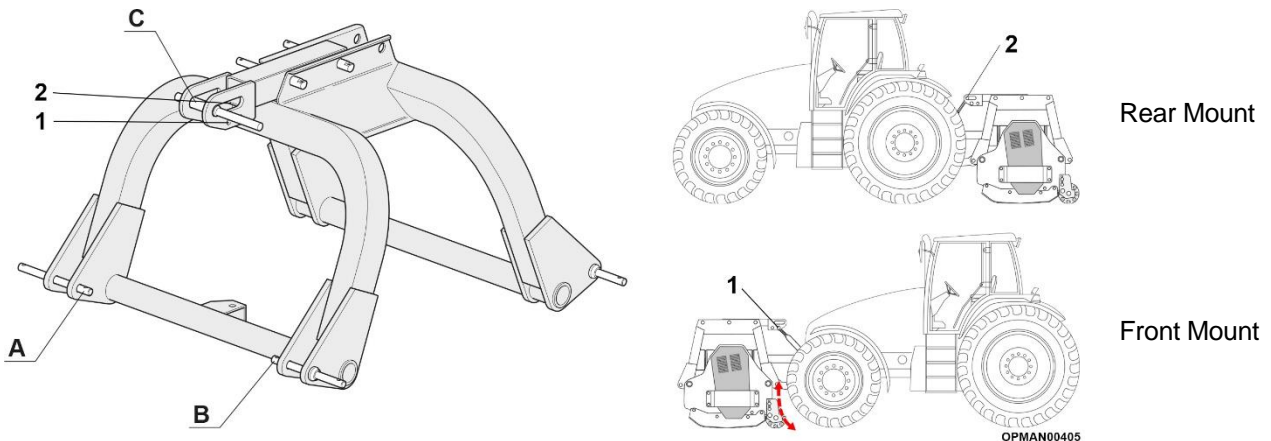

Figure 6
Proceed as follows for the coupling (see Figure 6):
- A fixed hole (ref Figure 6 (1)); which should be used for all transport purposes and front mount working purposes.
- A slotted hole (ref Figure 6 (2)); which should be used for rear mount working purposes.
The fixed hole (ref Figure 6 (1)) should be used during transport purposes, when the machine is out of work and is required to be lifted off the ground. The fixed hole ensures the machine remains as stationary as and will not move when it's carried by the tractor off the ground.
The fixed hole (ref Figure 6 (1)) should be used when the machine is operating at work. It is important that the **front linkage of the carrying tractor is put into float** to allow the machine to follow ground contours, giving better operation and finish of the cut material.
The fixed hole (ref Figure 6 (1)) should be used during transport purposes, when the machine is out of work and is required to be lifted off the ground. The fixed hole ensures the machine remains as stationary as possible and will not move when its carried by the tractor off the ground.
The slotted hole (ref Figure 6 (2)) should be used when the machine is operating at work. The slotted hole allows the machine to follow ground contours more effectively, giving better operation and final finish of the cut material.